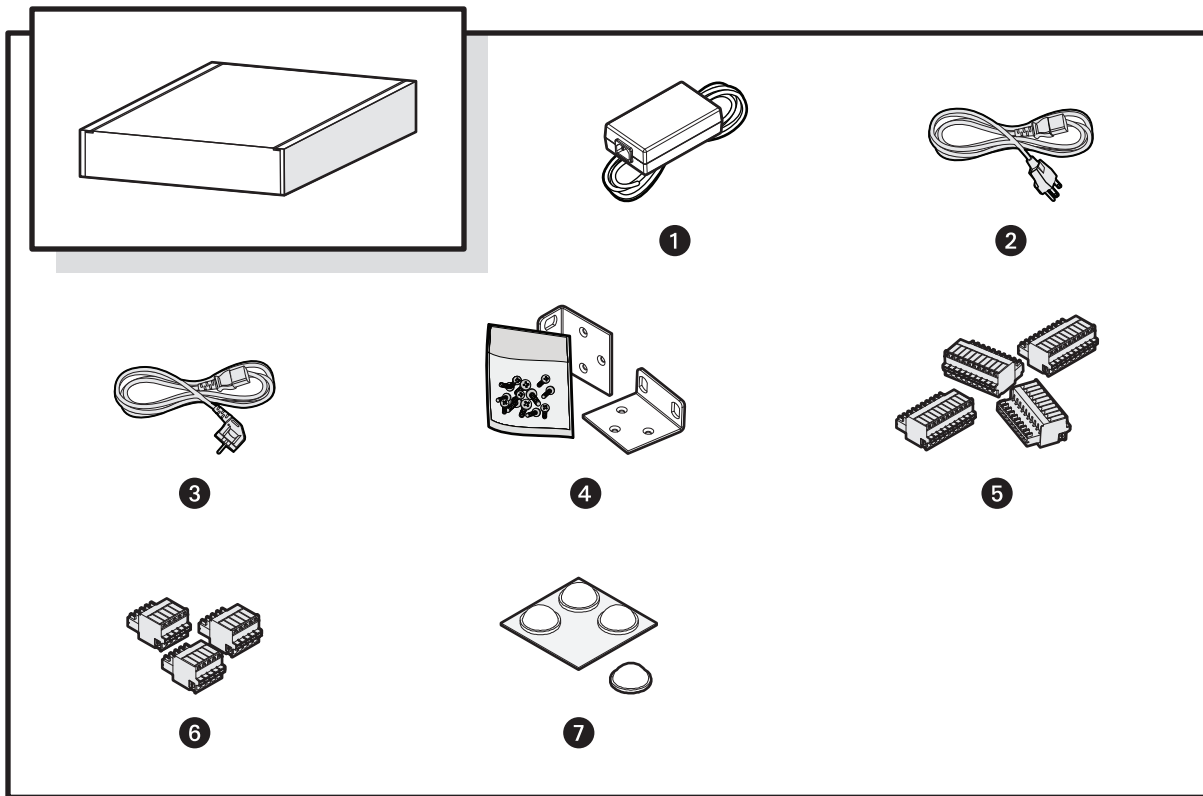

Figure 10. Accessory Pack
- 2 Accessory Pack (refer to Figure 10, page 10)